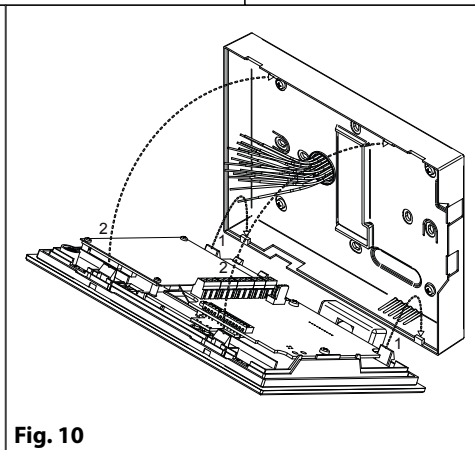

Fig. 10
4. Connect the wires using a flat screw driver then setup the dip-switches as per provided connection diagram or instruction sheet and fix the front part of the videophone to the back cover as shown in **Fig. 10**: hook first the bottom side then rotate the front part and hook the upper side;